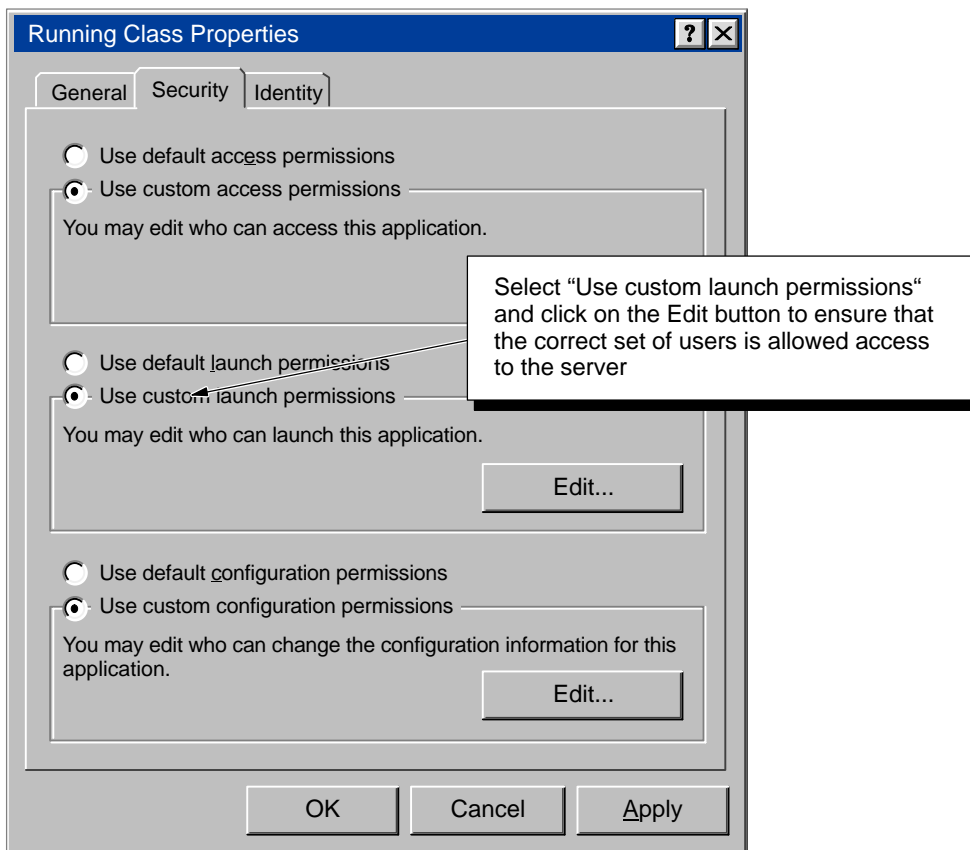

Figure D-9 Configuring the DCOM Access Permissions for the Server
2. Select “Use custom access permissions” and click on the Edit button. See Figure D-9.